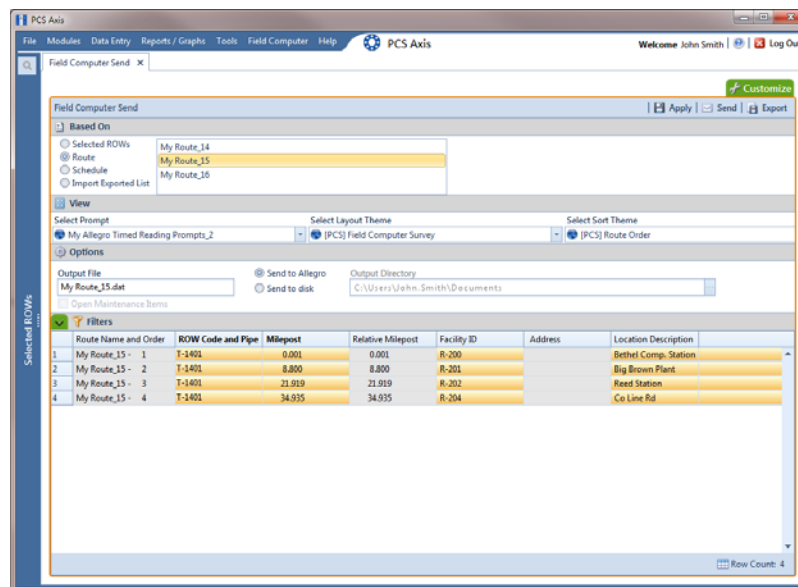

Figure 8-22. Field Computer Send
- 16 Click the **Route** option and select a route in the selection box. Then click  **Apply** to update the grid (Figure 8-22).
- 17 Click the down arrow in **Select Prompt** and select a theme with timed reading fields (Figure 8-22, page 372).